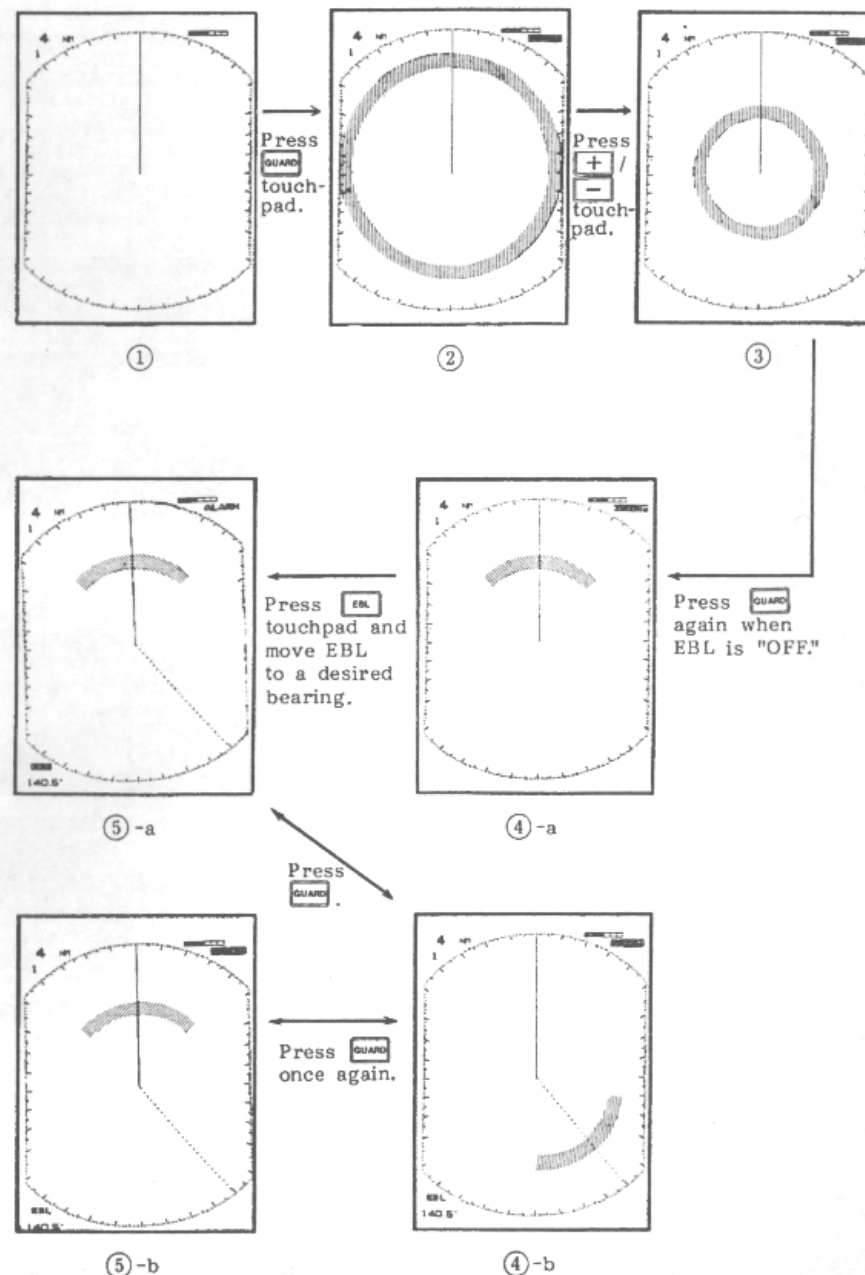

Fig.27 Setting Alarm
1. Press the **GUARD** touchpad once. The ALARM indicator (framed with a white light) appears on the upper right-hand side of the screen and a 360° doughnut-shaped guard ring is displayed (Fig.27 ②). Table 3 shows the initial guard area to be displayed.
2. The distance to the guard zone may be changed by the **+**/**-** touchpad. See Fig.27 ③. If you want to set a 90° sector alarm, 45° on either side of the heading mark or the EBL, proceed to step 3.
3. Press the **GUARD** touchpad again and the guard zone changes to a 90° fan-shaped sector, bisected by the heading mark. See Fig.27 ④-a.
4. If you want to change the guard zone location, press the **EBL** touchpad followed by **+**/**-** touchpads to set the EBL on the bearing desired for the center of the guard zone. See Fig.27 ⑤-a.
5. Press the **GUARD** touchpad and the guard zone drawn up in step 4 is brought up on the screen (Fig.27 ④-b.).